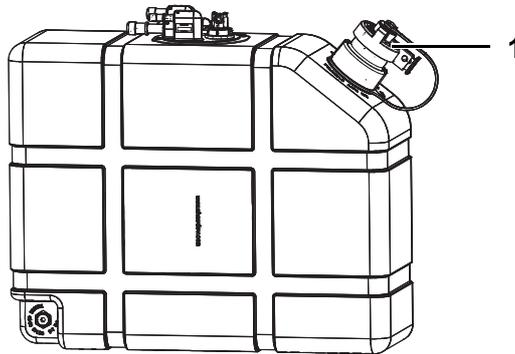

Fig. 100 DEF tank
8	Carefully open the sealing cover (1) in Fig. 100 of the DEF tank.